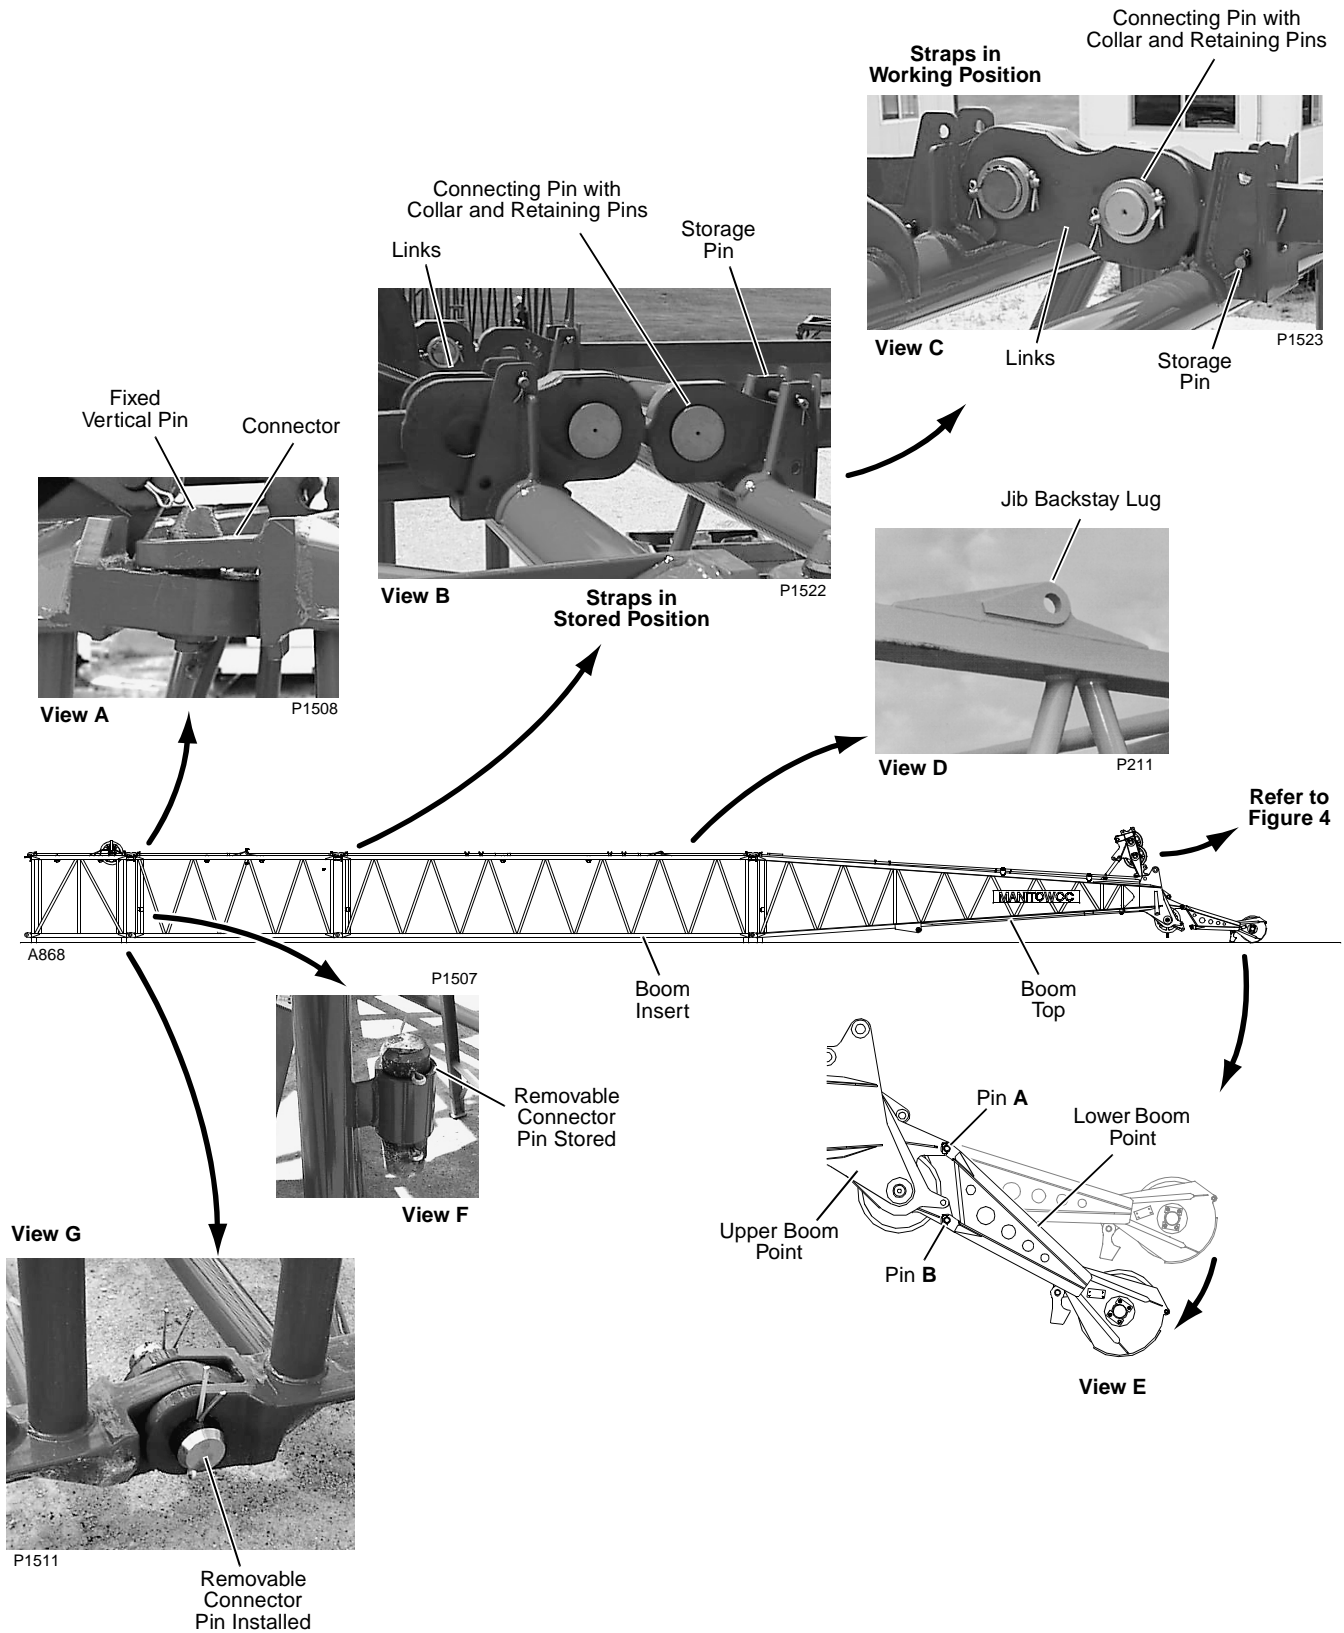

FIGURE 3
1. Before you start assembling boom, determine if a fixed jib will be installed. If so, install insert with backstay lugs (Figure 3, View D) next to boom top.
*Refer to Figure 3 for following procedure.*
- **If equipped with an upper boom point**, remove lower connecting pins (B, Figure 3, View E) before upper point contacts ground.